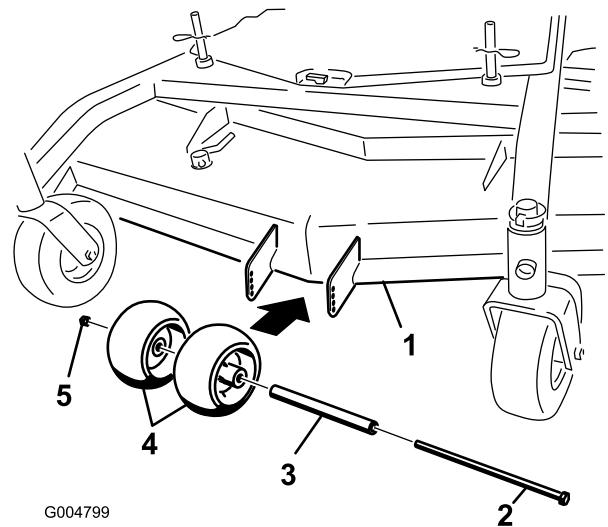

Figure 15
1. After adjusting height-of-cut, check the anti-scalp rollers so that there is a minimum of 3/8 inch (10 mm) clearance above the ground (Figure 15, Figure 16, Figure 17).
2. If adjustment is needed, remove the bolt, washers and nut (Figure 15, Figure 16, Figure 17).
3. Select a hole position so the anti-scalp rollers are a minimum of 3/8 inch (10 mm) off the ground (Figure 15, Figure 16, Figure 17).
4. Install the bolt and nut (Figure 15, Figure 16, Figure 17).